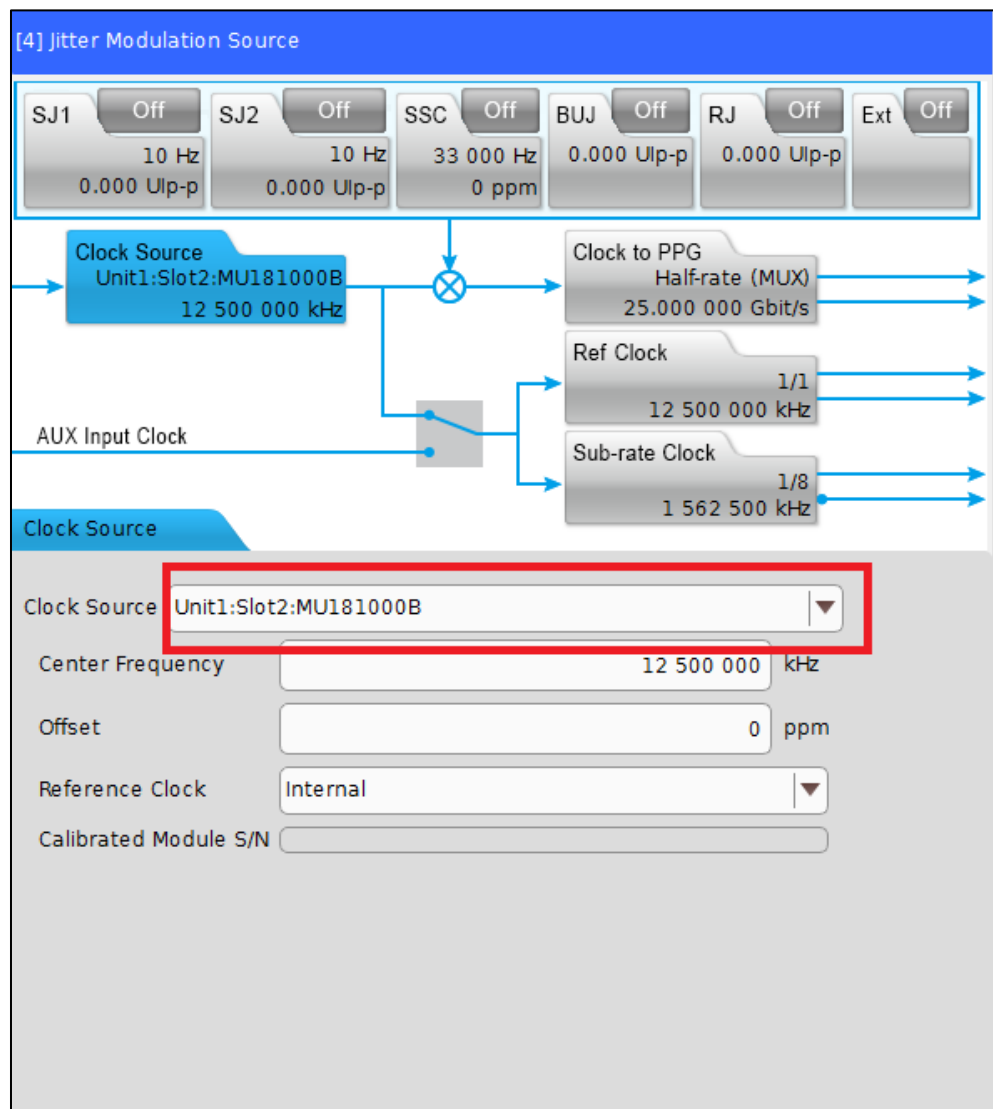

FIGURE 40. JITTER CLOCK SOURCE SETTING
- b) Go to Jitter tab and set Clock Source to “Unit1:Slot2:MU181000B”. See Figure 40.